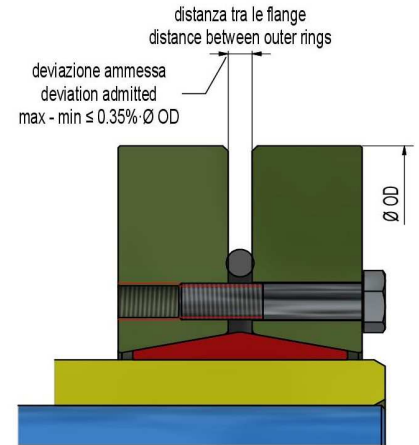

Fig. 5. Parallelism of outer rings.
- !** Once the screws are tightened, **check the parallelism of outer rings**. The max deviation of the distance between outer rings around the circumference shall be within 0,35% of the outer diameter (fig. 5). A larger error may cause a loss of pressure and, as a consequence, reduced performances.